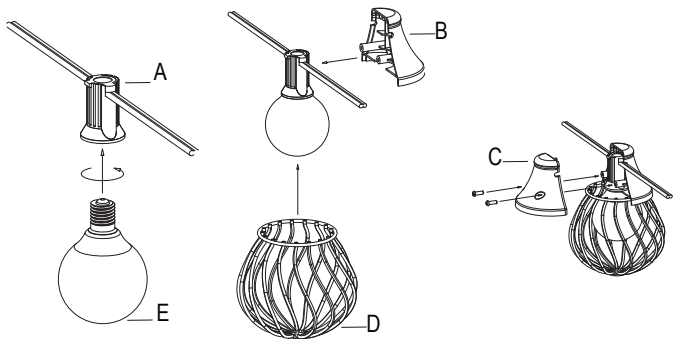

Figure 1
- Twist the bulb (E) into the lamp cap (A), clip the lamp cap (A) with cage cap 2 (C), put the metal cage (D) in the cage cap 2 (C), then clip the metal cage (D) with cage cap 1 (B), attach with screws. Figure 1.